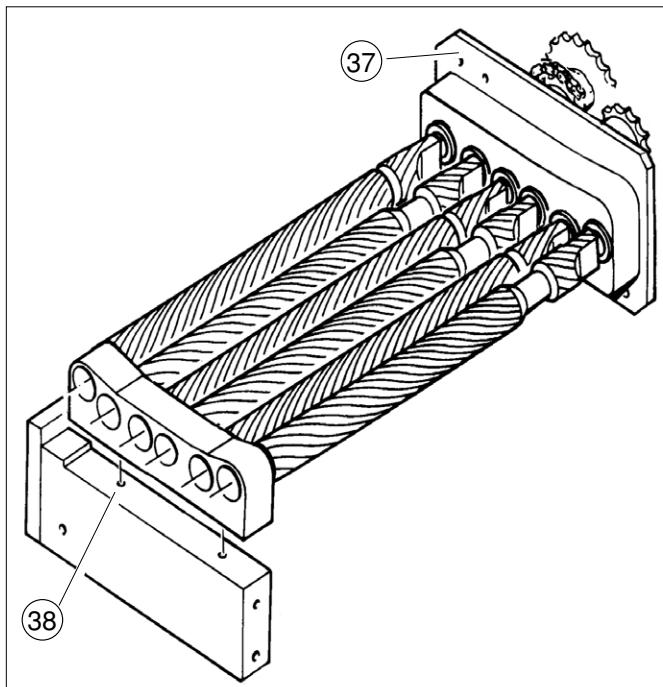

fig.17.1 Demounting peeling set
See figures 17.1, 17.2 and 17.3.
- See figures 17.1, 17.2, 17.3 and 17.4.